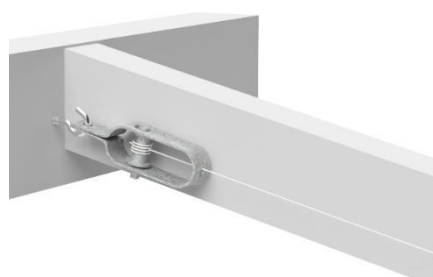

Figure 2
- Secure the other end of the cord to the tensioner, winding it until the right tension is achieved. See Figure 2.